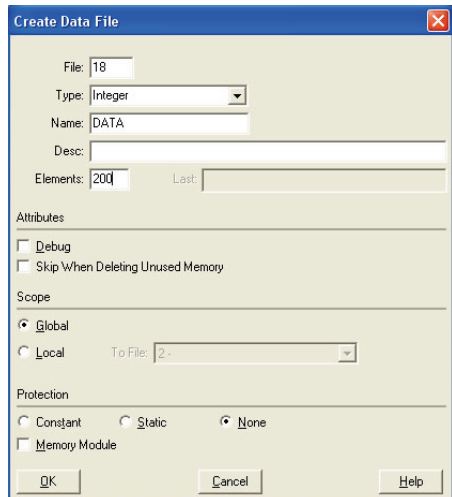

Figure 78: Creating a Data File
- c) Follow the same procedure to create a data file. This file will be used to store the incoming data read from the interface card. Enter a file number (e.g. 18), set the type to "Integer", enter a descriptive name (e.g. "DATA"), and enter a number of elements (e.g. 200). Refer to Figure 78. Click OK to create the file.